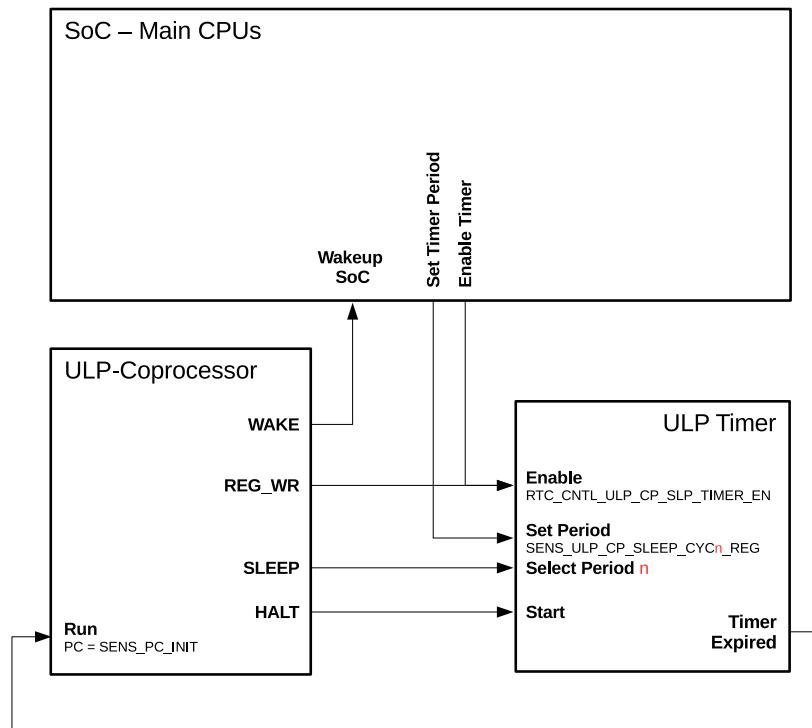

Figure 30-19. Control of ULP Program Execution
Once the timer expires, the ULP coprocessor is powered up and runs a program with the program counter (PC) which is stored in register SENS_PC_INIT. The relationship between the described signals and registers is shown in Figure 30-19.